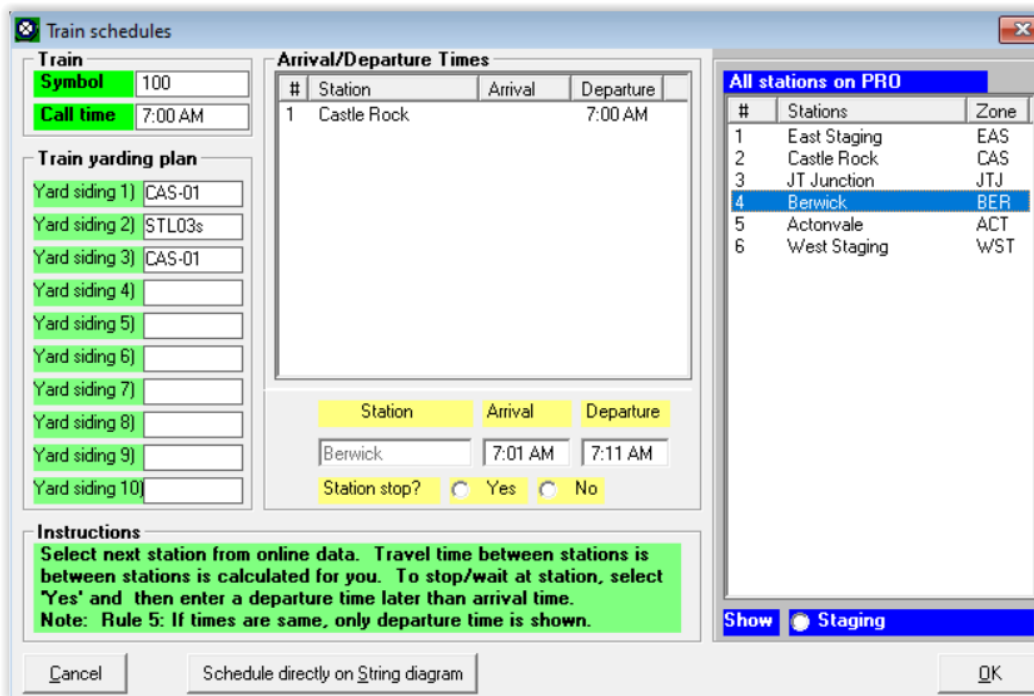

Figure 13-19
Page 13-21 **Figure 13-19** Delete existing Figure 13-19.
Page 13-22 **New Steps & Figures** Insert new Steps 7 through 9 and new Figures 13-19 through 13-21 (to page 72).
- a. Double click on Berwick in the right panel to bring it to the "Arrival/Departure Times" editing fields (see Figure 13-19). ProTrak has assigned the arrival time we want, however we must adjust the departure time.
This is the end of new Steps 7 through 9 and new Figures 13-19 through 13-21.